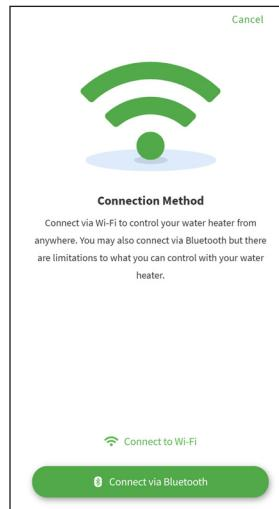

Figure 158 - Connect via Bluetooth
- 1** Select the option to “Connect via Bluetooth” at the bottom of the screen (Figure 158).